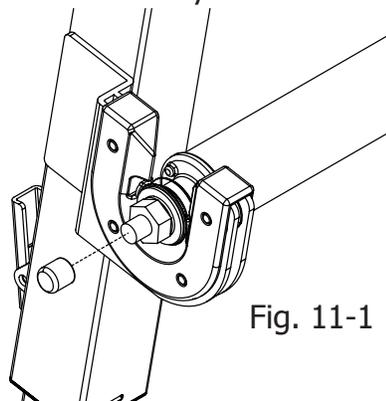

Fig. 11-1
11-1: Slide one (1) rubber end cap onto the end of each bolt, as shown in Fig 11-1, sticking out of rail ends, short bolt ratchet assemblies and the long bolt ratchet assembly.